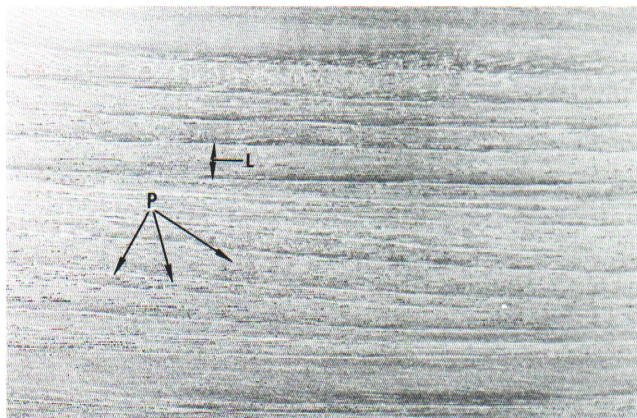

Figure 19 — American mahogany. Periodic lines, L, and pores, P.
24. Dry to the touch, orange brown, ribbon stripe figure common (Fig. 19) ..... **American Mahogany**